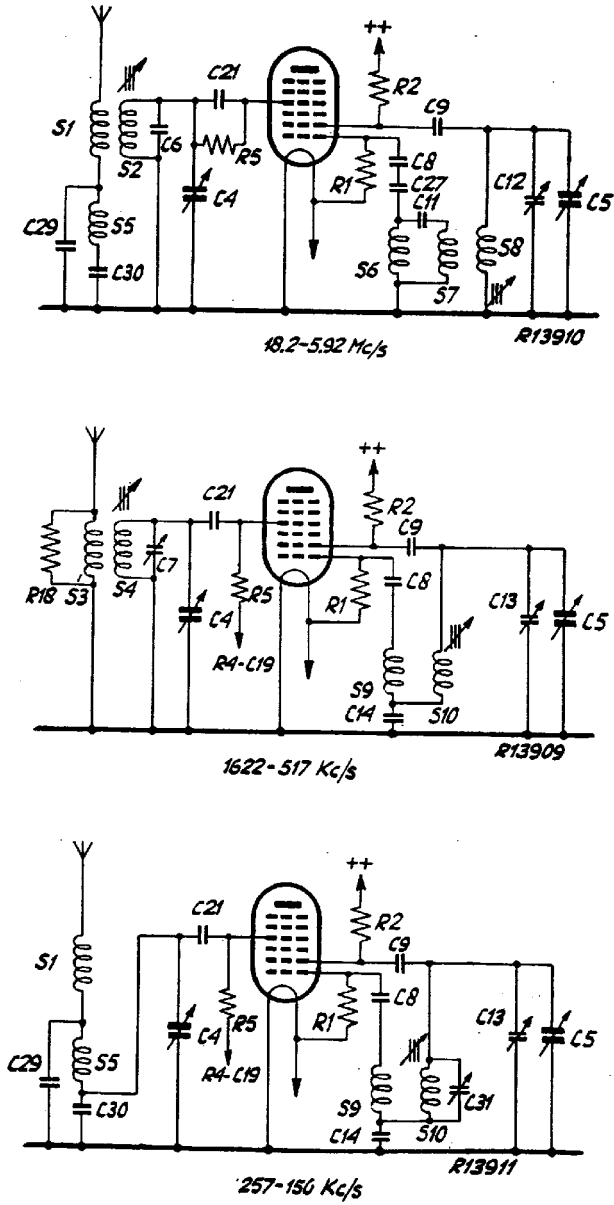

Fig.1
- Fig. 1 Position of the coils and trimmers